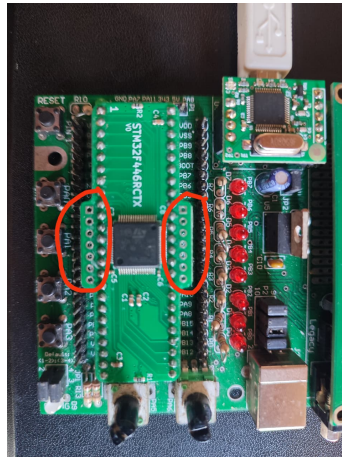

Figure 1: Out of Bounds Row Headers
1. Solder the pin headers onto your STM32F4 module. Don't solder pins to the highlighted row headers shown below in Figure 1: